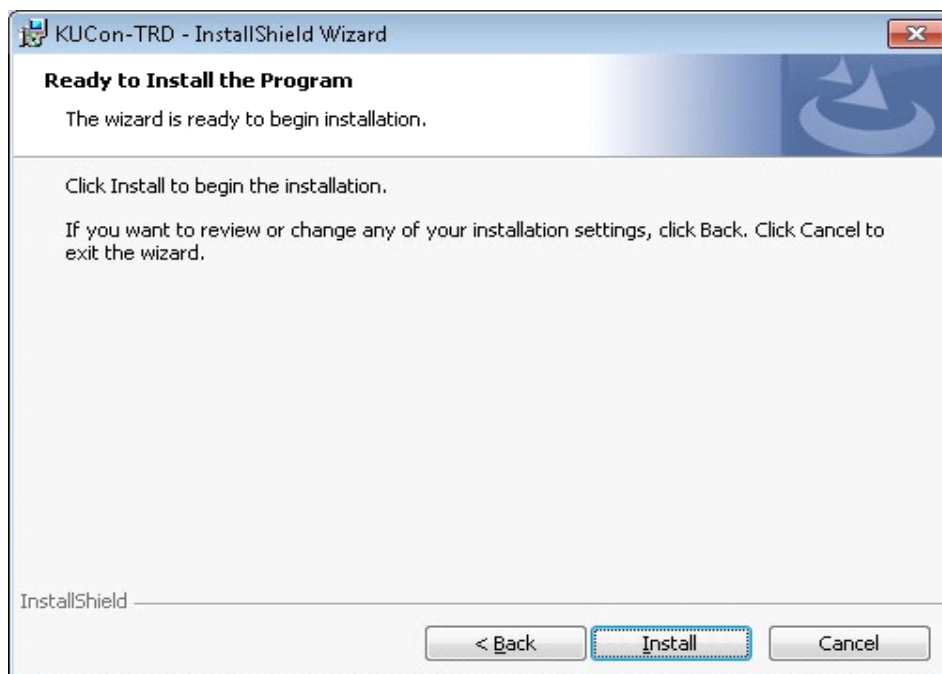

Figure 2-5: Install Drivers
- Click Install to begin driver installation (see Figure 2-5).